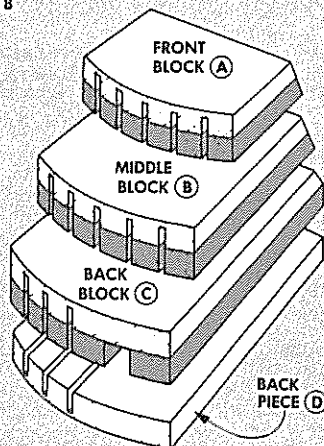

FIGURE 9
**THE BORDER.** To rout the border, hold the router base tight against one of the fences, turn on the router, and lower the bit into the wood. (Don't start at a corner — it tends to burn.) Now rout clockwise around the inside of the jig, see Fig. 9. Move quickly and keep the router base tight against all the fences.
**SETTING UP THE SAW.** To make the slits, I made a single pass with a carbide-tipped saw blade to cut a kerf approximately  $\frac{1}{8}$ " wide. Start by raising the blade to a height of  $\frac{17}{16}$ " ( $\frac{1}{16}$ " less than the thickness of the block). Then set the fence  $\frac{15}{16}$ " away from the blade, see Fig. 9.
**CUTTING THE KERFS.** Now, with the rounded-over corner facing up, make a cut through the length of the front block (A) and the middle block (B). Then, without changing the fence, turn the blocks end-for-end and make a cut with the other edge against the fence, see Fig. 9. (This puts a kerf  $\frac{15}{16}$ " from both edges, see Step 1.)